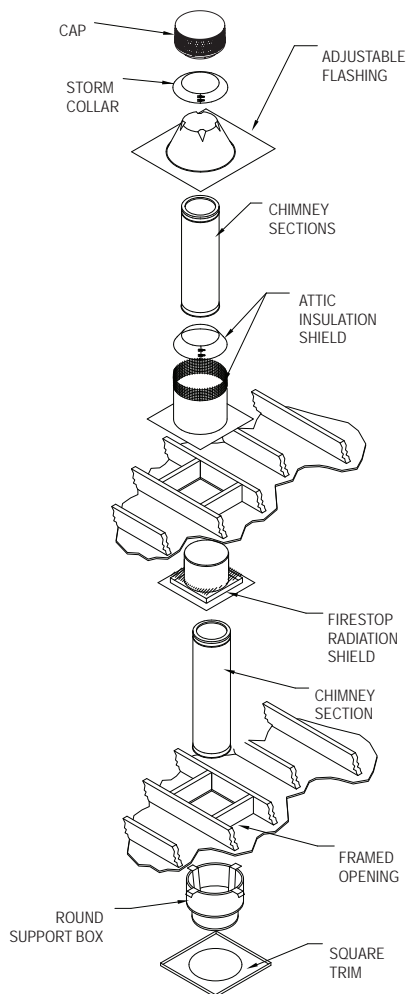

Figure 6
4. Frame Openings: Frame openings in each ceiling or floor above the Support Box (**Fig 6**). These openings are to hold the Firestop Radiation Shield and Attic Insulation Shield. Locate each opening by dropping a plumb bob to the four corners of the opening below. Maintain the minimum clearances and dimensions as specified in **Table 2**. If Elbows must be used to avoid an obstruction, refer to the Offset Elbow Installation section.
including where the chimney penetrates into the attic. **Figure 6** shows a typical 2-story installation with an attic.
- c. Slip the Attic Insulation Shield over the Chimney and Firestop Radiation Shield until the base sits squarely on the framed opening (*Fig 6 & 10*).